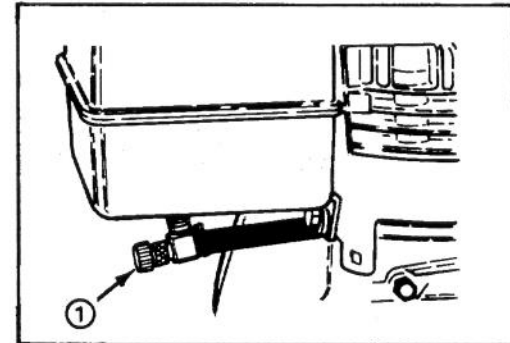

Figure 11
**Fuel Shut-Off Valve** (Fig. 11) — Valve is located under fuel tank. Close valve to stop fuel flow from fuel tank and open valve to allow fuel to flow to the carburetor. Close valve when snow-thrower is not used.